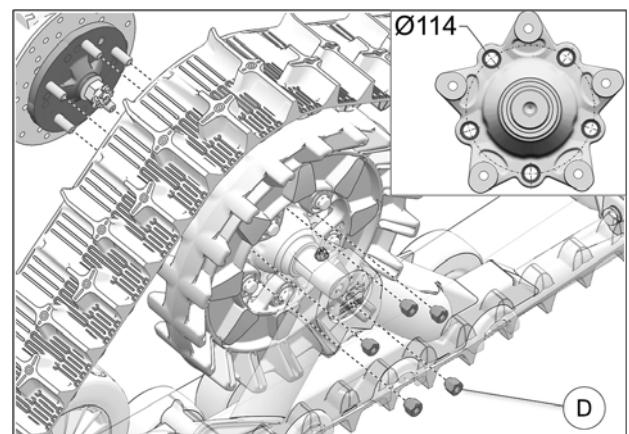

Fig. 9
- Secure undercarriage to rear hub using the provided M12 lug nuts (**D**). See Fig. 9